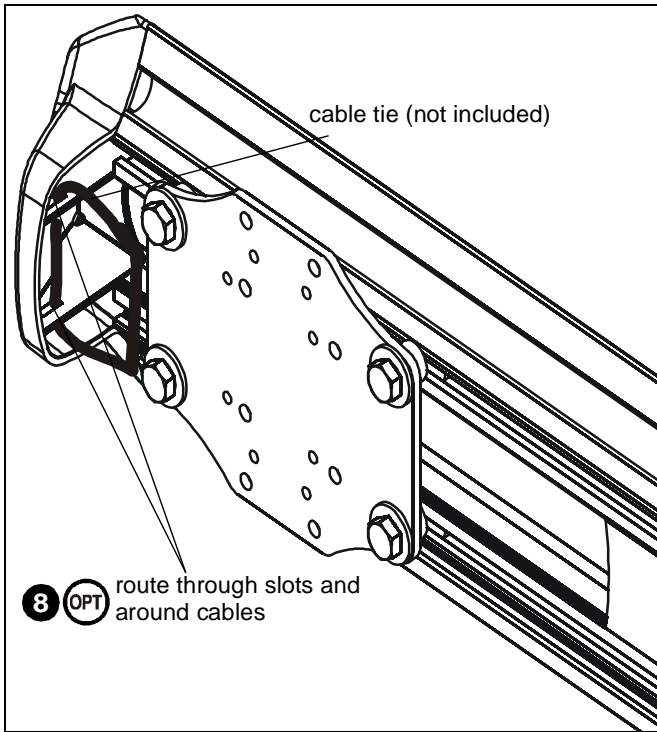

Figure 26
8. (Optional) Cables can be tied to inside of projector's front cover using cable ties (not included). Route cables near front cover and wrap cable tie through slots on front cover and around cables. (See Figure 26)